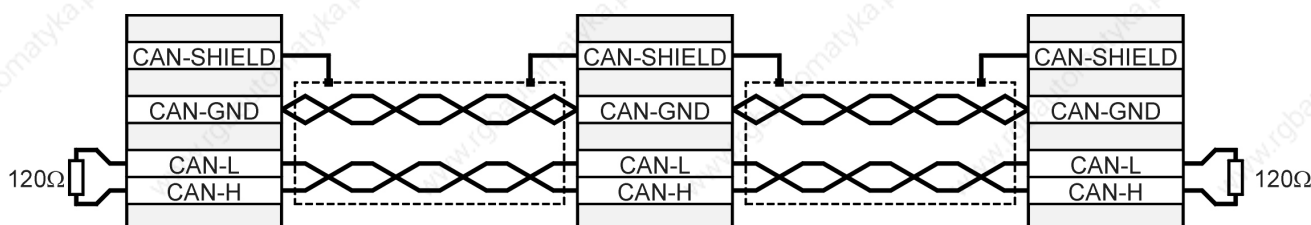

Figure 29: CAN bus cabling example
- ❖ The individual nodes of the network are always connected in line so that the CAN cable is looped through from controller to controller (see Figure 29).